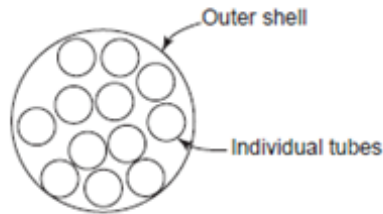

FIGURE E2-4 Cross section of heat exchanger.
- 2.4 A company is redesigning its parallel flow heat exchanger of length  $l$  to increase its heat transfer. An end view of the unit is shown in Fig. E2-4. There are certain limitations on the design problem. The smallest available conducting tube has a radius of 0.5 cm and all tubes must be of the same size. Further, the total cross-sectional area of all the tubes cannot exceed  $2000 \text{ cm}^2$  to ensure adequate space inside the outer shell. Formulate the problem to determine the number of tubes and the radius of each tube to maximize the surface area of the tubes in the exchanger.